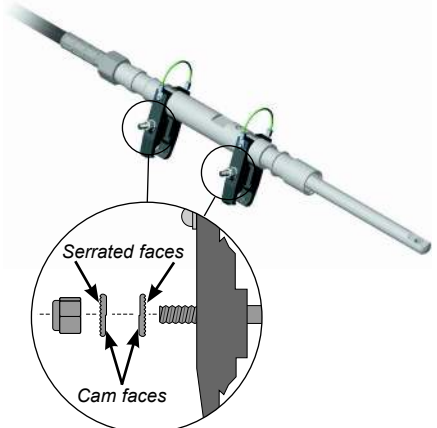

Fig B27 - Fitting the clamp assemblies
- The anti-vibration washers must be fitted in the correct order on the clamp assemblies, with the serrated face of the washer in contact with the nut face and the clamp face. The cam face of the washers must be in contact with each other (Fig B27).